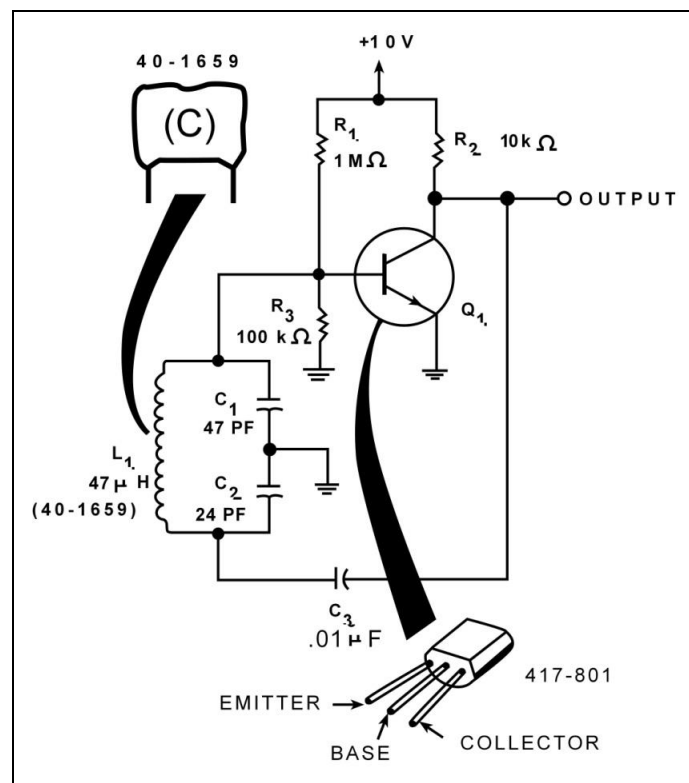

Fig. 2-1 Circuit for Step 1 (Colpitts Oscillator)
1. Construct the circuit shown in Fig. 2-1. Make sure you connect transistor Q_1 as indicated in the pictorial. Otherwise, the collector and emitter terminals may inadvertently be reversed and the oscillator will not function. You can identify inductor L_1 by the yellow and violet lines painted on it.